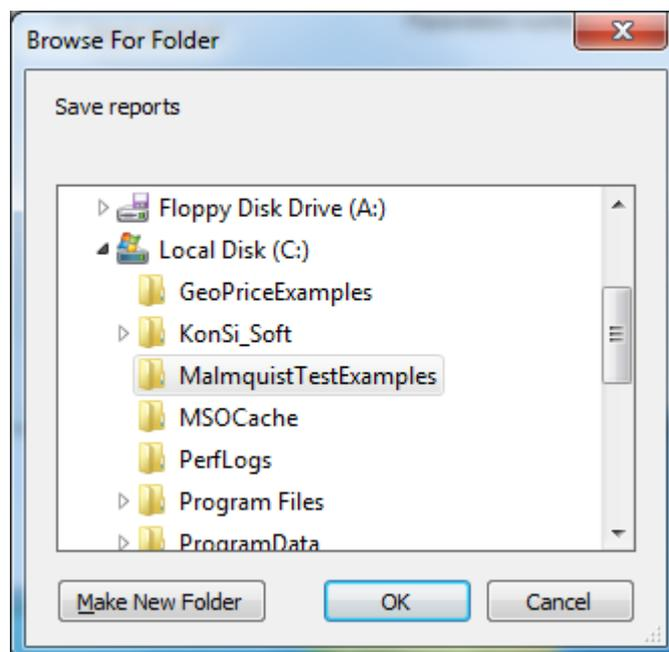

Figure 33 Select a folder where you would like to save reports
Step 6. Calculate Malmquist Index values. Click **Run** in the **Malmquist Index Calculation** window. After that you must save calculated reports. In the **Browse For Folder** dialog box, select a folder where you would like to save reports generated by the program and then click **OK** (Figure 33).